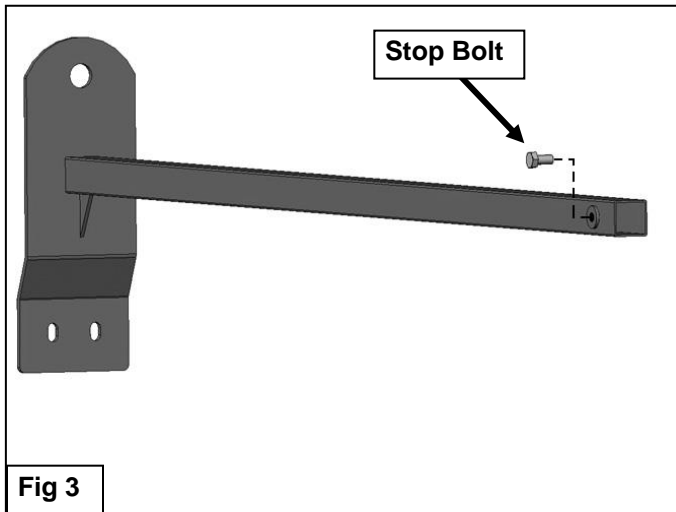

Fig 3
3. Repeat **Step 2** to assemble all (5) remaining Cross Bar inner and outer assemblies.
4. Select (1) inner and (1) outer Cross Bar assembly. Slide (1) Inner Cross Bar into (1) Outer Cross Bar, **(Figure 2)**. Lock in place with (1) 10mm Hex Bolt, **(Figure 3)**. Do not tighten locking bolt at this time.